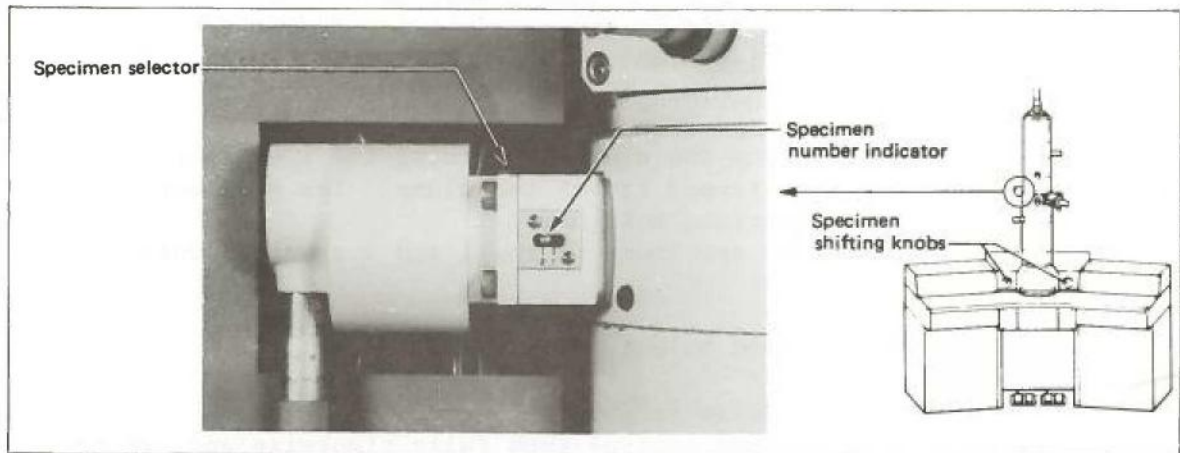

Fig. 4.6 Specimen selecting device
6. Set the specimen number indicator (Fig. 4.6) to the desired number with the specimen selector.